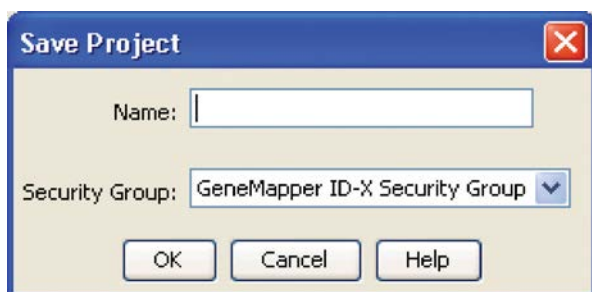

Figure 18. The Save Project window.
10. If all analysis requirements are met, the Save Project window will open (Figure 18).
9. If all analysis requirements are met, the Save Project window will open (Figure 18).